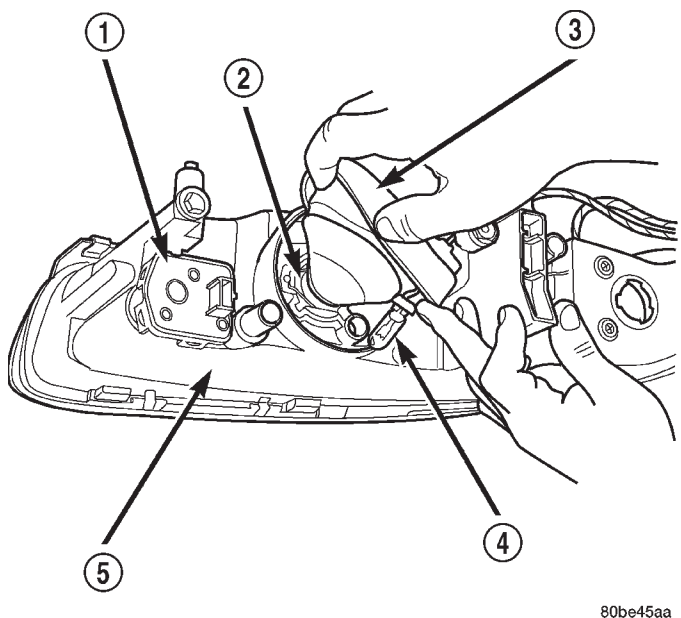

Fig. 2 Headlamp Module Orientation
- (5) Pull back protective rubber boot and remove front position lamp by pulling straight out (Fig. 2).
- (6) Loosen headlamp bulb retaining screw until bulb can be removed (Fig. 2). Remove bulb.
- (7) Remove the headlamp leveling motor by rotating clockwise and pulling straight from headlamp module. Significant force will be required to unsnap the motor push rod from headlamp pivot connection.